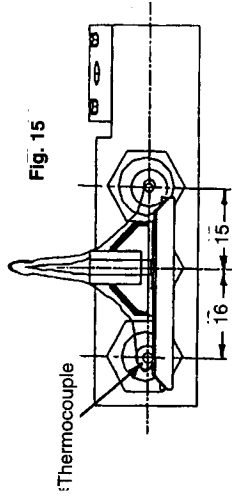
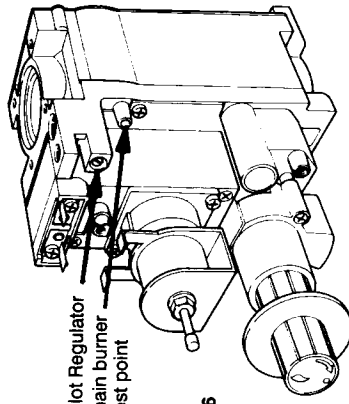

Fig. 15
Fig. 16
- 6.5.5** The pilot flame should remain alight and envelope the thermocouple (see fig. 15). If it goes out, wait 3 minutes and repeat from 6.5.4
- 6.5.7** Refer to fig. 15 and check that the pilot flame is correct. If it is necessary to adjust the flame refer to cl. 5.5.2 for access instructions. Fig. 16 shows the location of the adjustment screw. Turning clockwise decreases flame and vice versa.
Locate the main burner pressure test point (Fig. 16) and slacken the screw half a turn in an anti clockwise direction. Attach a suitable pressure gauge. Turn on the main electricity supply, turn on a domestic hot water tap to operate the appliance in dhw mode. Adjust the hot water thermostat to maximum setting.